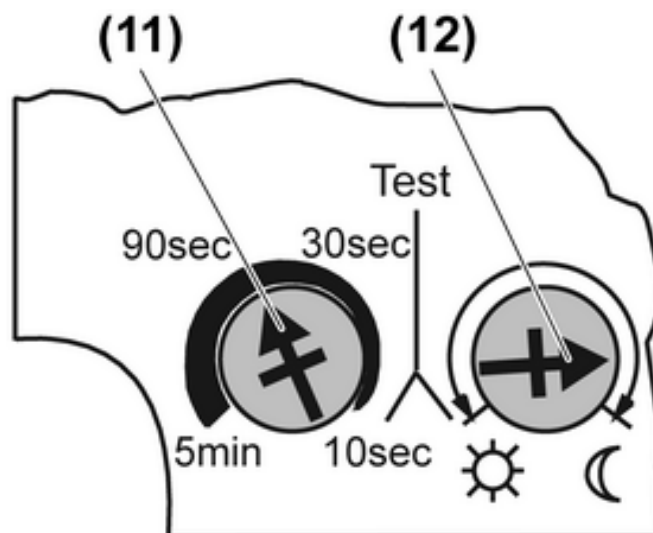

Figure 5: Setting the follow-up time and the brightness threshold
On the rear side of the housing cover of the motion detector, there is one adjuster each for the follow-up time (11) and the brightness threshold (12) (Figure 5).
- Set the required follow-up time using the adjuster (11).
- Set the required brightness threshold with the adjuster (12). The ☀ icon stands for Day mode, i.e. switching independent of brightness, and the 🌙 icon for minimum brightness.
- ❗ Should the device need to switch at the start of twilight, then set the adjuster (12) as shown in (Figure 5).